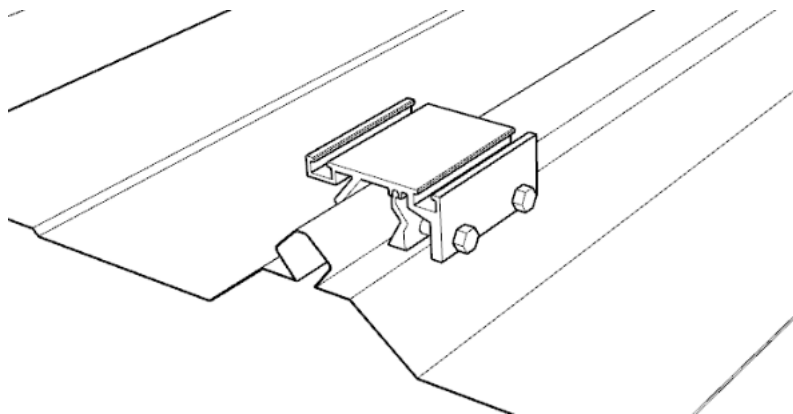

FIGURE 3
- ② Install the clamp on the diamond rib according to the position of the snapline, and use the M6 bolt to lock the clamp for installation (Figure 3) as shown below (Figure 4);